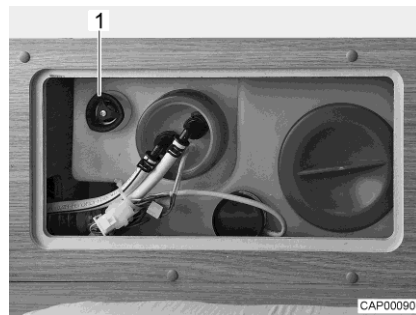

Fig. 63 Water tank with rotary handle
- Turn the rotary handle (Fig. 63,1) on the water tank in a clockwise direction as far as it will go.
- Turn the rotary handle (Fig. 63,1) on the water tank in an anticlockwise direction as far as it will go. Excess water will drain away leaving approx. 20 litres in the tank.